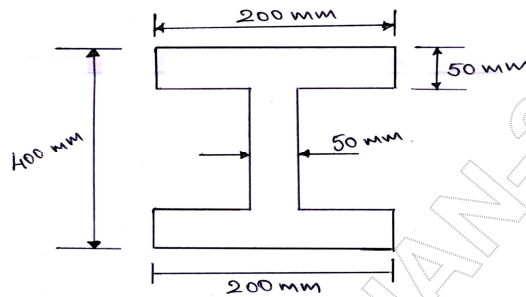

Fig.Q.8(b)
b. Draw shear stress distribution for an I-shaped section of a beam as shown in Fig.Q.8(b). The shear force on this section is 200kN. (10 Marks)